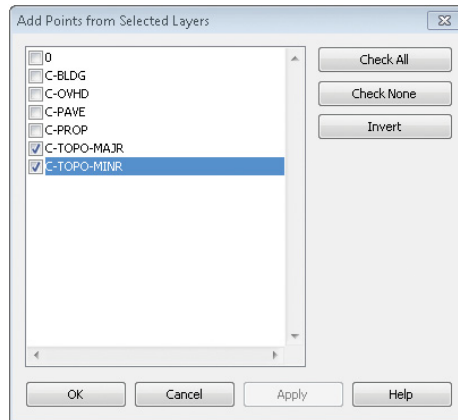

FIGURE 13.8 Select only the layers containing 3D contour information
7. Click the linked CAD file, and the Add Points From Selected Layers dialog box appears (Figure 13.8). Click the Check None button, and then select the layers C-TOPO-MAJR and C-TOPO-MINR.